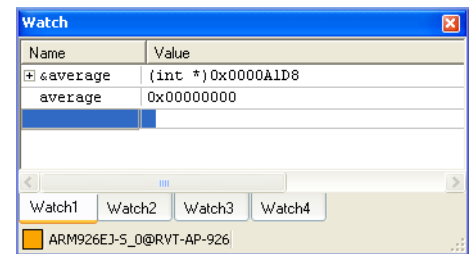

Figure 10-43 Watch view
- f. Drag and drop the selected variable into the Watch view. Figure 10-43 shows an example: